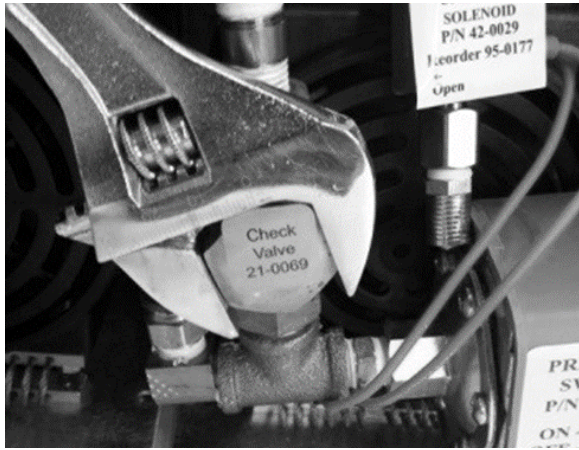

Fig. 1
4. Locate compressor manifold and check valve. Using crescent wrench, remove check valve by turning counter-clockwise. (Fig. 1)